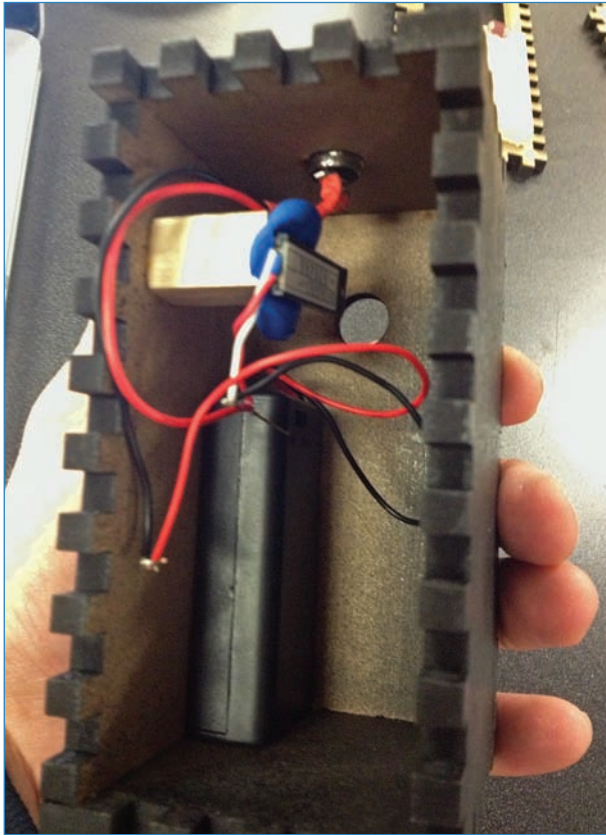

FIGURE 2.19 The laser module; the blue blob is the Sugru used to stick the laser to the block of wood.
3. Glue a piece of wood to the inside of the box as shown in Figure 2.19. I chose a piece of wood about 0.75" in length. Use a piece of Sugru putty (described in Chapter 8) to attach the laser to the wood so the beam shines through the hole in the front of the enclosure. Be sure the laser is shining exactly how you want it, then let the Sugru cure overnight; this holds the laser in place.